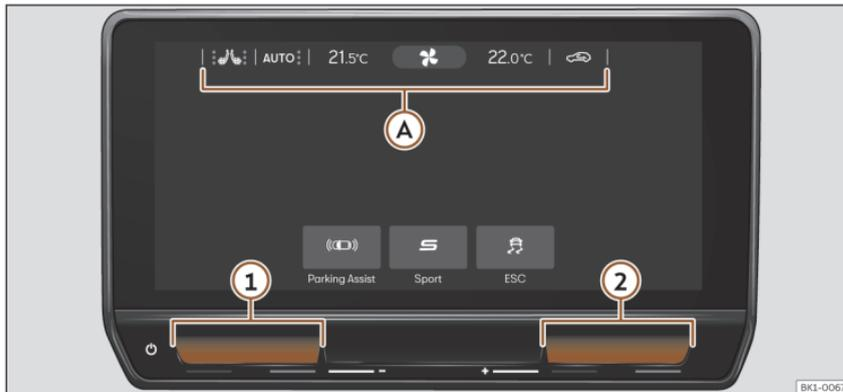

Fig. 91 Schematic representation: air conditioning functions
Fixed bar at the top of the Infotainment System»» **Fig. 91 A** screen, (even if it is disconnected) where the following Air Conditioning functions are located:
OR: use the touch zones **1** and **2** (blue / red) to adjust the temperature of the Air Conditioning»» **Fig. 91**.
>>> Fig. 91  to view the seat heating menu.
- You can also adjust the seat heating level by using **two** fingers to press the sensor field >>> Fig. 91  or  (left or right seat).